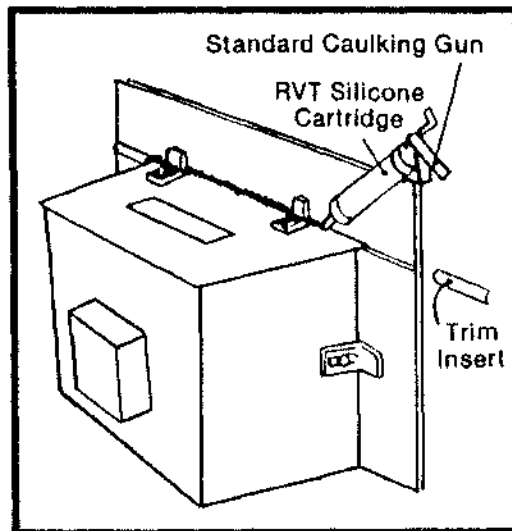

FIGURE 9 SEALING TRIM PANELS
1. (See Figure 9) Using the caulking gun and a cartridge of RTV silicone, run a bead of silicone all the way around the inside of the trim panels next to the stove.